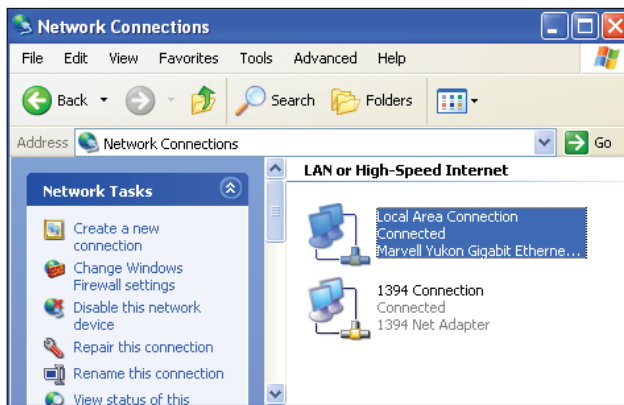

Figure 30: Network Connections Window
2. Double-click on the **Network Connections** icon. The *Network Connections Window* will appear (**Figure 30**).